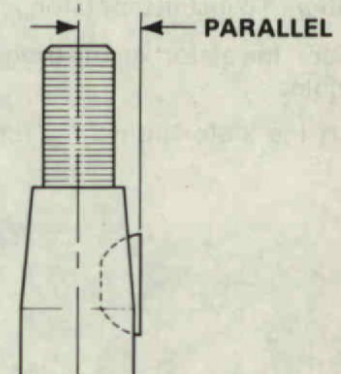

Figure 14. Position of Flywheel Key Prior to Assembly.
1. If flywheel key has been removed, reassemble key to crankshaft with outer edge of key parallel to center line of crankshaft, Figure 14.